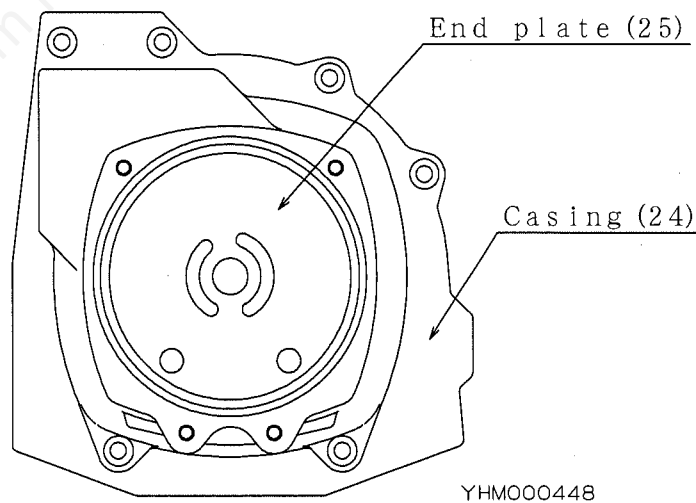

Fig. 6
- ⑤ Install End plate (25) into Casing (24). Assembling direction differs depending on the models. See fig.6.